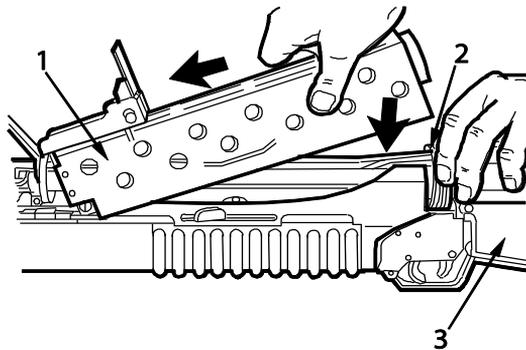

Figure 9. Handguard Leaf Sight-Assembly
3. Pull slip ring (Figure 9, Item 2) rearward, slide handguard (Figure 9, Item 1) forward and down to install on host weapon (Figure 9, Item 3). Release slip ring over the handguard flange to lock handguard in place.